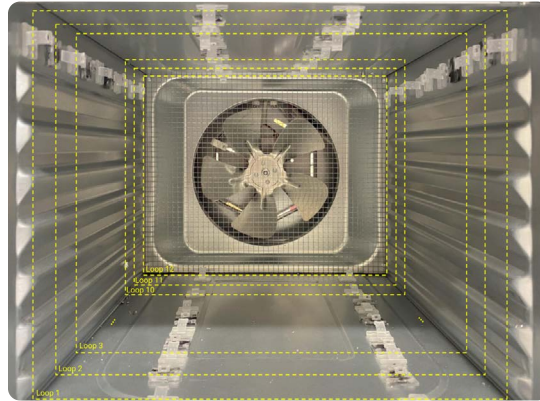

Figure 1. Image of all clips placed on the inside of the oven.
2. Install the clips inside the oven at the locations shown in Figure 1. Orient each clip to face toward the oven door. This will make it easier to open and close the clips as you install the LED strip.